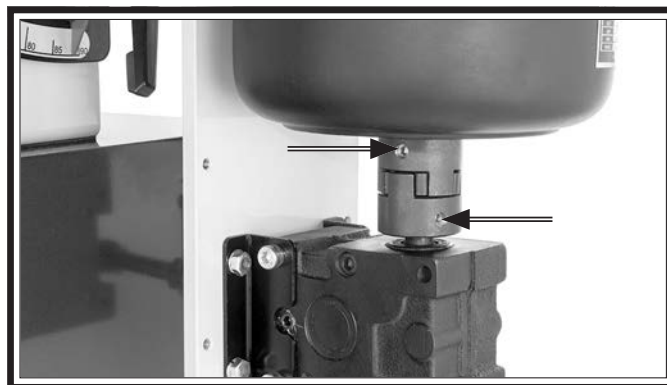

Figure 79. Location of spindle connector set screws.
8. Check spindle connector set screws shown in **Figure 79** and tighten if loose.